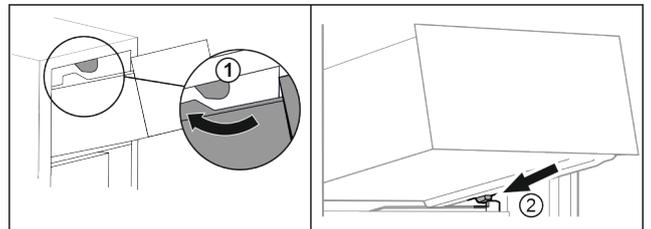

Fig. 22
- ▶ Guide drawer around the upper stoppers. Fig. 22 (1)
- ▶ Place drawer at an angle behind the lower stoppers onto moulded rib. Fig. 22 (2)